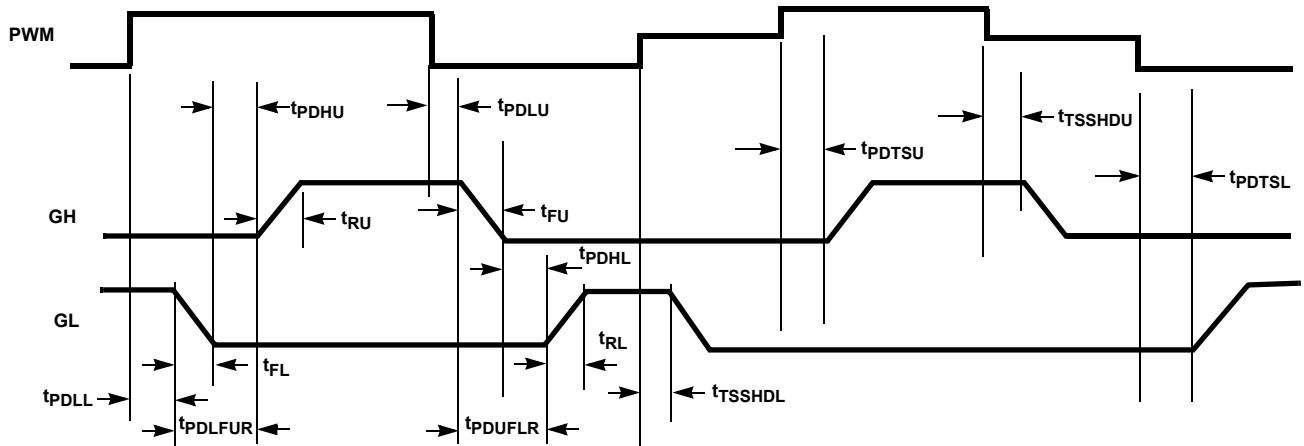

FIGURE 5. TIMING DIAGRAM (INTERNAL SIGNALS)
3.3V PWM INPUT FOR ISL99227 (See "TIMING DIAGRAM" <a href="#">Figure 5 on page 9</a> )
5V PWM INPUT FOR ISL99227B (See "TIMING DIAGRAM" on <a href="#">Figure 5 on page 9</a> )